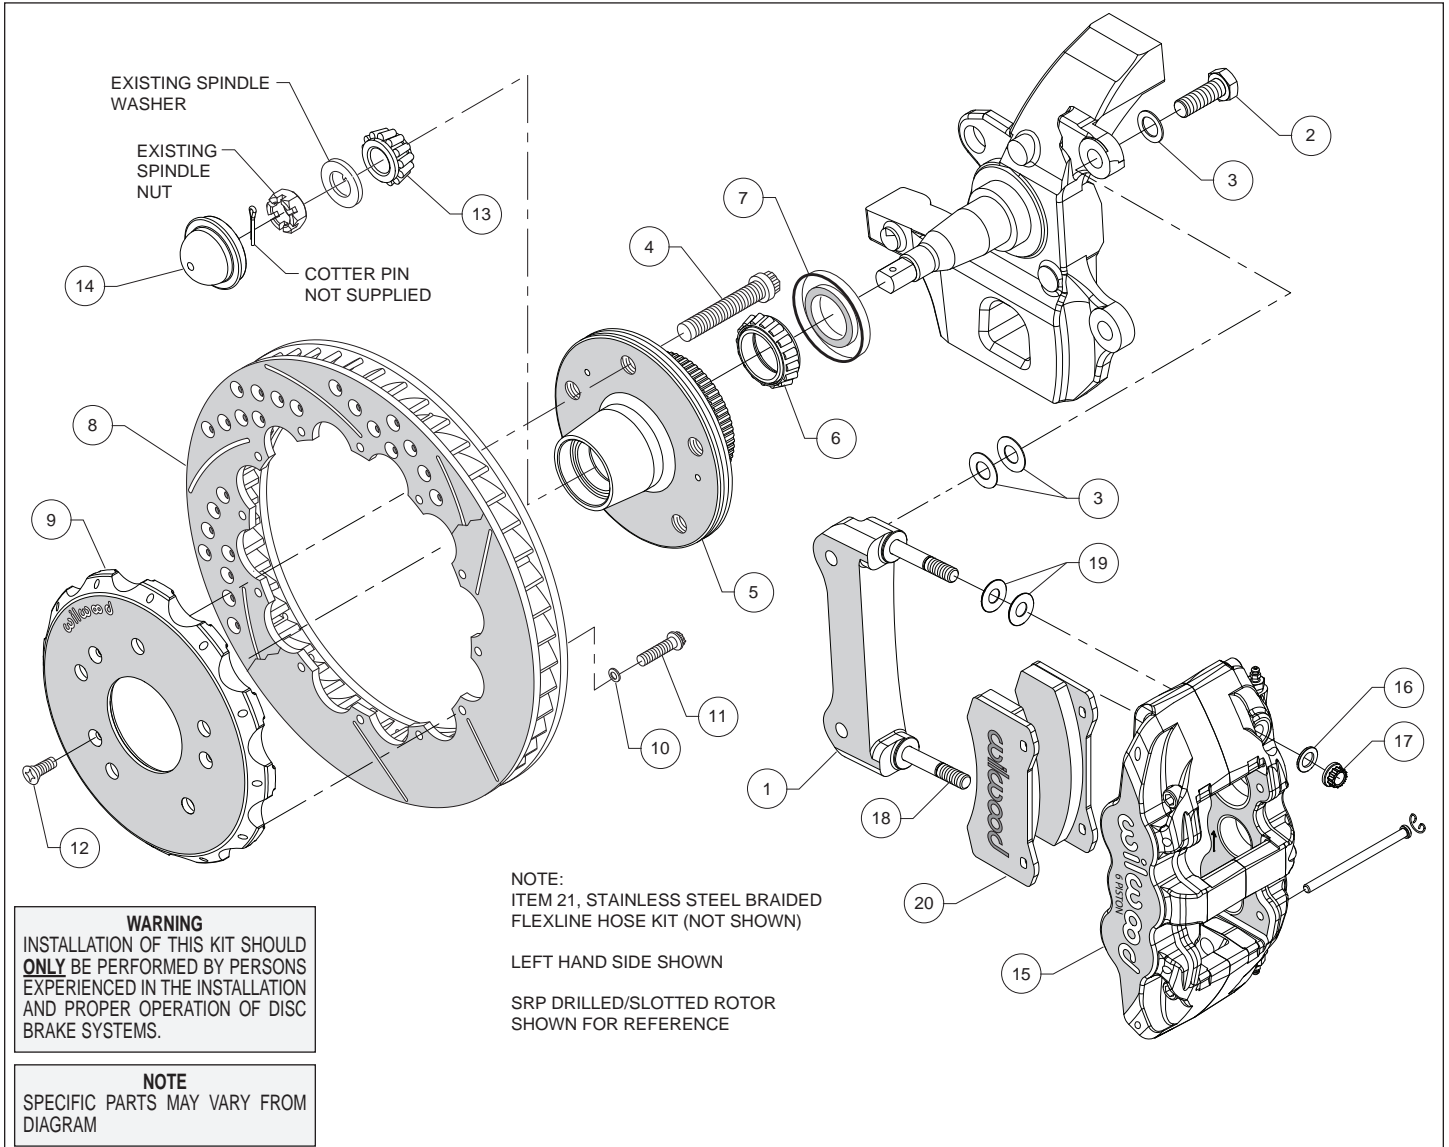
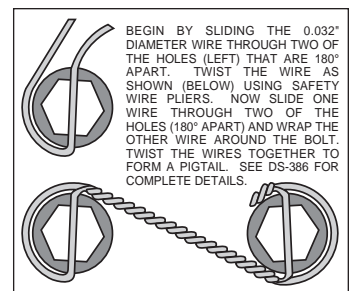

Figure 1. Typical Installation Configuration
Figure 3. Safety Wire Diagram
Assembly Instructions (numbers in parenthesis refer to the parts list on the preceding page, and Figure 1):
- The caliper mount bracket (1) should initially be installed with clean, dry threads on the mounting bolts. Orient the bracket as shown in Figure 1 and Photo 1, and install using bolts (2) and shims (3). Initially place two .029" thick shims (3) on each bolt between the bracket and spindle, Figure 1. Temporarily tighten the mounting bolts. **NOTE:** *The bracket must fit squarely against the mounting points on the spindle.* Inspect for interference from casting irregularities, machining ridges, burrs, etc. Later, after the caliper alignment has been checked, the mount bolts will be secured using red *Loctite*® 271.
- Install the grease seal (7) by pressing into the backside of the hub (5), flush with the end of the hub, Photo 4.
- Orient the rotor (8) and the hat (9) as shown in Figure 1 and Photo 5. Attach rotor to hat using bolts (11) and washers (10). Using an alternating sequence, apply red *Loctite*® 271 to the threads, and torque to 155 **in-lbs**. For an added measure of security, the bolts may be safety wired using standard 0.032 inch diameter stainless steel safety wire as shown in Figure 3.
- **NOTE:** *This kit contains distinct right and left hand calipers that must be mounted in a specific direction, as described below.* Lubricate the caliper mounting studs (18) with lightweight oil. Initially place two .030" thick shims (19) on each stud between the caliper and the bracket, as shown in Figure 1 and Photo 9. Mount the caliper (15) onto the bracket (1) using lock nuts (17) and washers (16), Figure 1. Ensure that the caliper is mounted so the largest pistons are at the rotor exit end of the caliper, in relation to the direction of rotor rotation. Temporarily tighten the lock nuts and view the rotor through the top opening of the caliper. The rotor should be centered in the caliper, Photo 10. If not, adjust by adding or subtracting shims (3) between the bracket and the spindle. Always use the same amount of shims on each of the two mounting bolts. Once the caliper alignment is correct, remove the bracket mounting bolts one at a time, apply red *Loctite*® 271 to the threads, and torque to 77 ft-lb.
- Remove the two pad retaining pins from the caliper (15) by carefully popping out the pin retaining clips and sliding out the pins. Insert the brake pads (20) into the caliper from the bottom, Figure 1 and Photo 11. With the friction material facing the rotor, secure the brake pads in place with the pad retaining pins and clips, Photo 12. Reinstall the caliper onto the caliper mounting bracket and temporarily tighten the lock nuts. Check that the top of the brake pad is flush with the outside diameter of the rotor, Photo 13. If not, adjust by adding or subtracting shims (19) between the caliper and the bracket. After the caliper pad height is set, torque the caliper lock nuts (11) to 47 ft-lb.